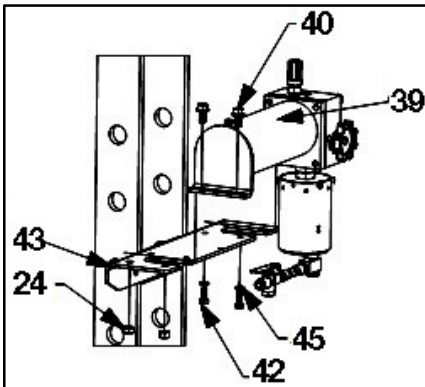

Fig. 25: Install air pump
1. Attach the air pump to the Pump Bracket [item #43] using (2) 3/8"X3/4" Cap screws, (2) 5/16" X 3/4" Cap screws, (2) 5/16" Lock Washers, and (2) 3/8" Nuts as shown in Fig. 25.